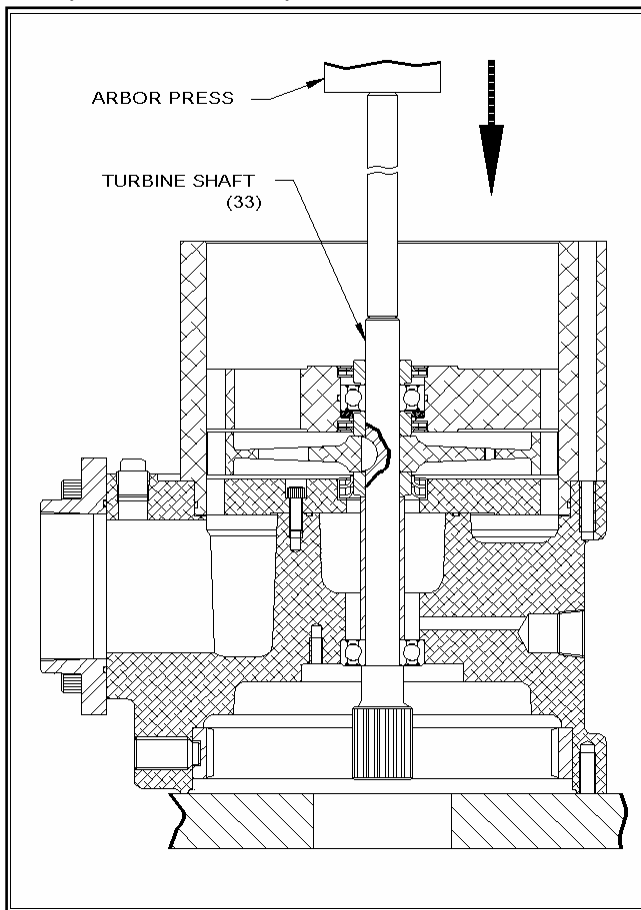

Figure 14. Turbine Shaft Removal
Using the shaft removal tool P/N 2-26945 per figure 14, press on the turbine shaft (33) while supporting the turbine housing.